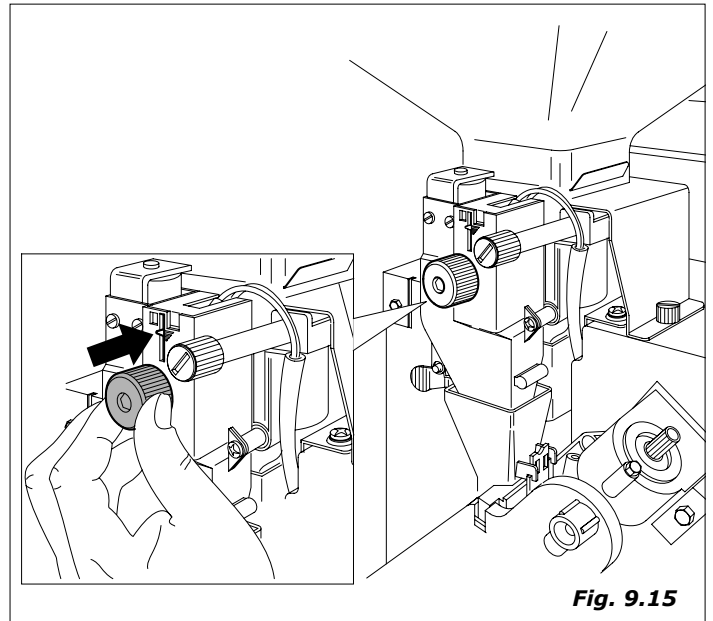

Fig. 9.15
- *Ground coffee gram weighting:* vary the quantity using the knob positioned on the measuring device (Fig.9.15).
The variation in the product can be controlled by means of the reference notches on the body of the measuring unit (see figure 9.15)